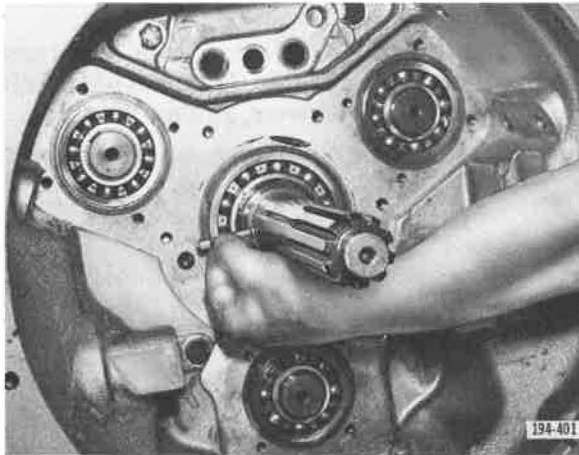

Figure 5-944. Installing Pump Vane
5. Place oil pump vane into its bore in main drive pinion. See **Figure 5-944**.